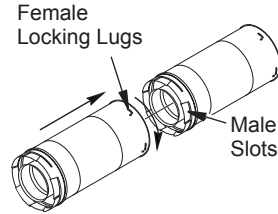
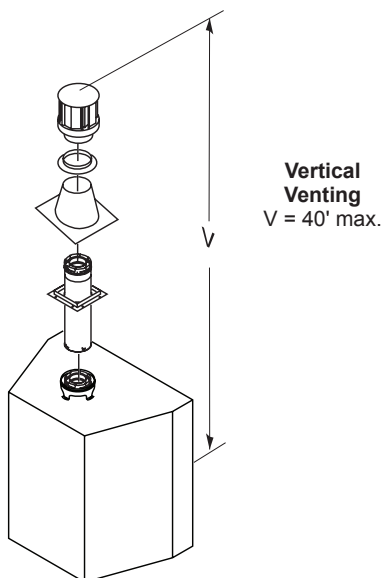

Figure 8 - Vent Pipe Connections
**Figure 16 - Installing Firestop**
**Twist-Lock Procedure:** Female ends of pipes have locking lugs (indentations). These lugs will slide straight into matching slots on male ends of adjacent pipes. Push pipe sections together and twist one section clockwise approximately one-quarter turn until sections are fully locked (see Figure 8).
1. Cut a 11 1/2" square hole in ceiling using locating hole as a center point. Opening should be framed to 11 1/2" x 11 1/2" inside dimensions, as shown in Figure 8 on page 12 using framing lumber the same size as ceiling joists. If area above ceiling is an insulated ceiling or an attic, nail firestop from top side. This prevents loose insulation from falling into required clearance space. If area above ceiling is a living space, install firestop below framed hole. Firestop should be installed with no less than three nails per side (see Figure 16).
2. Assemble desired lengths of pipe and elbows necessary to reach from fireplace flue up through firestop. Be sure all pipe and elbow connections are fully twist-locked (see Figure 8, page 12).